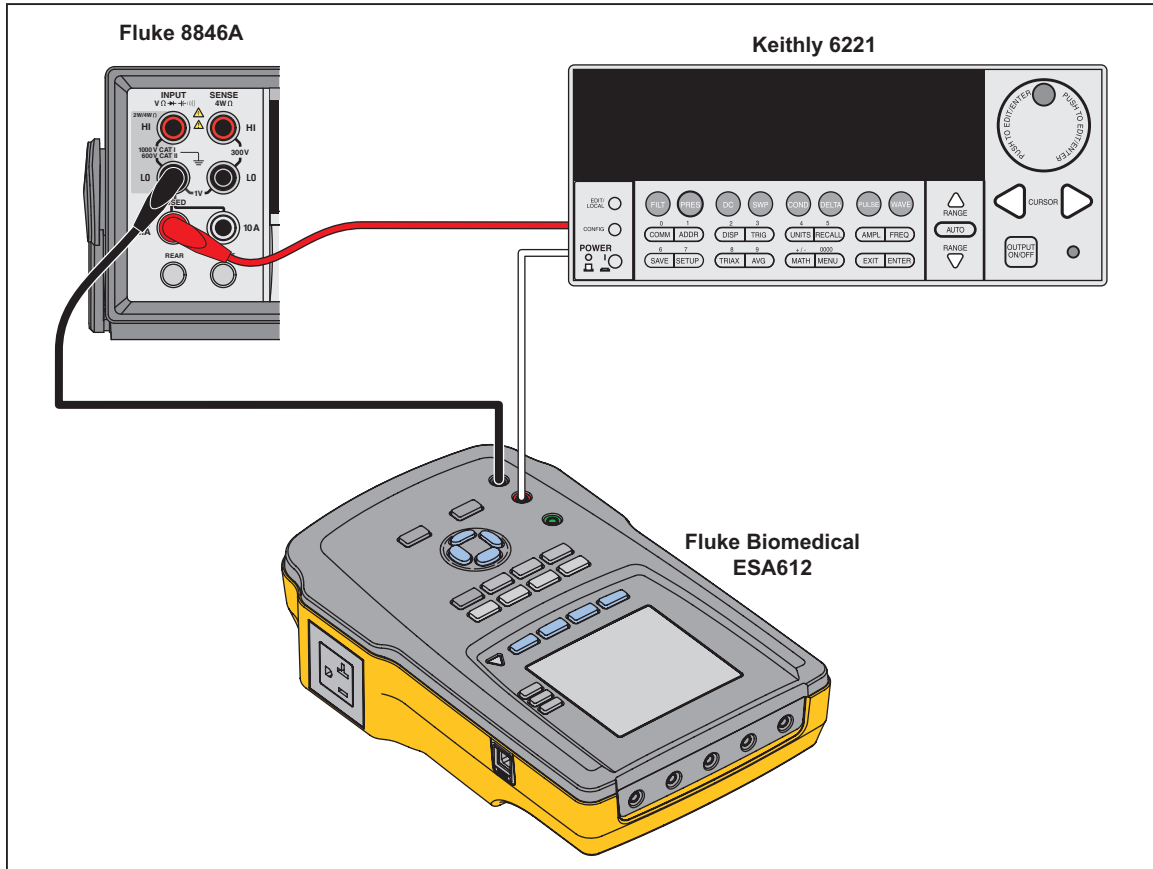

Figure 3-30. Leakage Calibration
1. Connect the current source to the red jack and the 400 mA jack of the DMM. Connect the DMM Input (-) to the black jack. See Figure 3-30. Set the current source to 1.00 mA (1.4142 mA p-p), 60 Hz with a 10 V compliance voltage and the DMM to 1 mA ac mode.